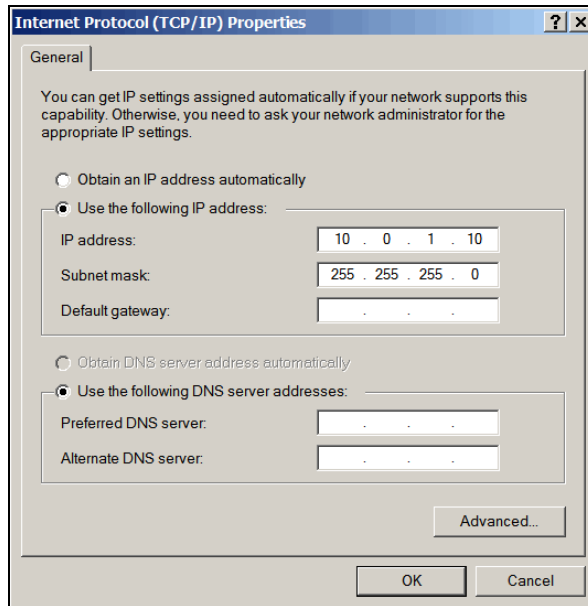

Figure 39 IP Parameters for USB Setup
6. Select the **General** tab and then select the “Use the following IP address” option. Enter the following settings. Refer to Figure 39.